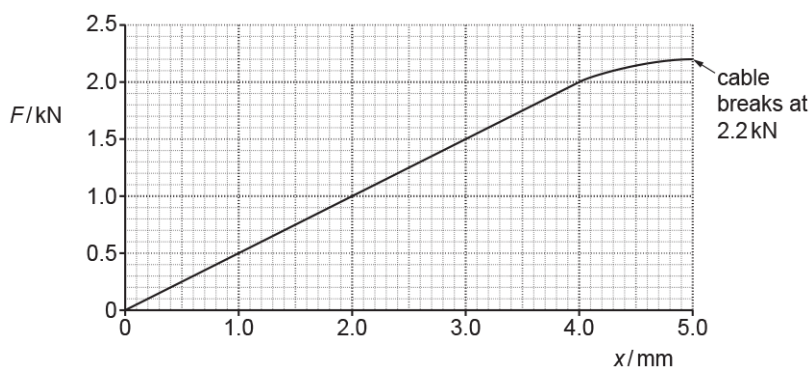

Fig. 16.2
The results of the investigation are shown in Fig. 16.2.
- iii. Use Fig. 16.2 to determine the force constant k in N m^{-1} of the cable.